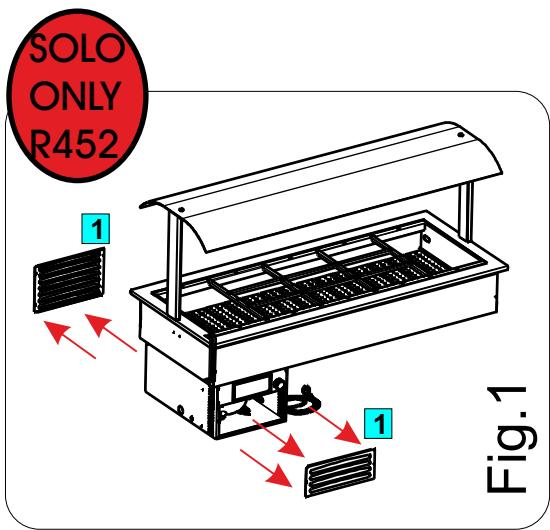

Fig. 1
- 1- TOGLIERE LE GRIGLIE DI PROTEZIONE DEL VANO MOTORE (FIG. 1) CHE ANDRANNO POI INSTALLATE NEL MOBILE “CONTENITORE” PER PERMETTERE L'ENTRATA E L'USCITA DELL'ARIA (SOLO-ONLY R452)
- 1 REMOVE THE PROTECTION GRIDS OF THE COMPRESSOR COMPARTMENT (FIG 1) MOUNT THESE GRIDS ON THE STRUCTURE/FURNITURE ON WHICH YOU PUT YOUR DROP-IN INSIDE IN ORDER TO ALLOW THE CORRECT INPUT AND OUTPUT OF THE AIR (SOLO-ONLY R452)
- 1- ENTFERNEN SIE DIE LUEFTUNGSGITTER DES MOTORRAUMS (FIG 1) – DIESE WERDEN AUF DER VORBEREITETEN MOEBELEINRICHTUNG/STRUKTUR FUER DEN EINBAU WIEDER MONTIERT DAMIT DER EIN- UND AUSGANG DER LUFT ERMOEGLICHT WIRD (SOLO-ONLY R452).